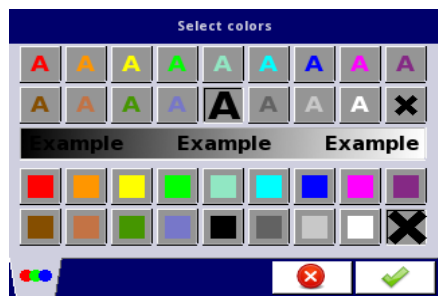

Fig. 7.4. Style of slot editor
- style of slot editor window, see **Fig. 7.4**,